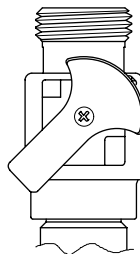

Figure 2
- Open the water supply. Then open probe valve on Perlick Smart coupler to the 45° position. *See figure 2.* The beer pump will slowly pump up the beer line in the trunk housing to set psig. Note: If pump continues to run for longer than expected, check lines for possible leaks at one or more of the connections.